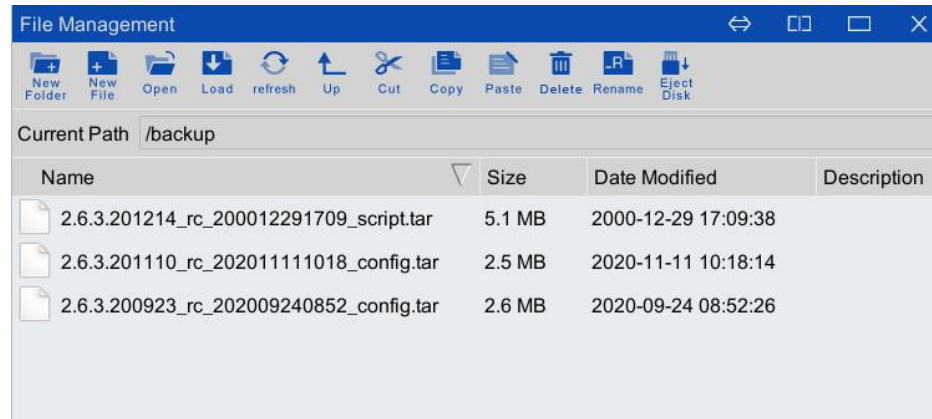

Figure 7-6 Path of file backed up
- Step3. After the backup is completed, you can click on the "File > File Management > backup" option on the main interface of the teach pendant to enter the interface as shown in Figure 7-6 to view the backed up files.